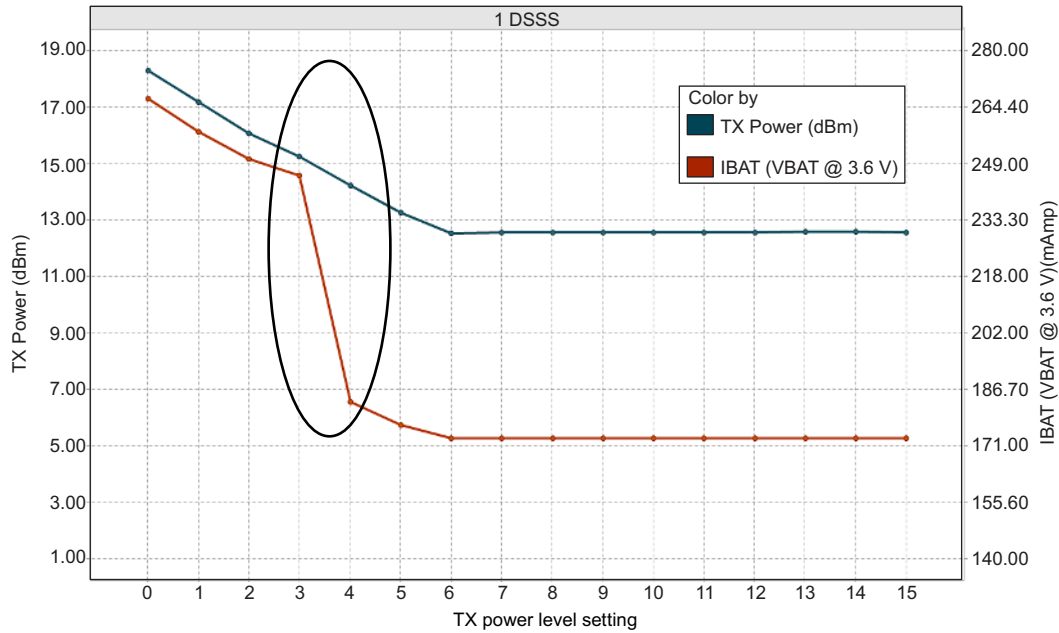
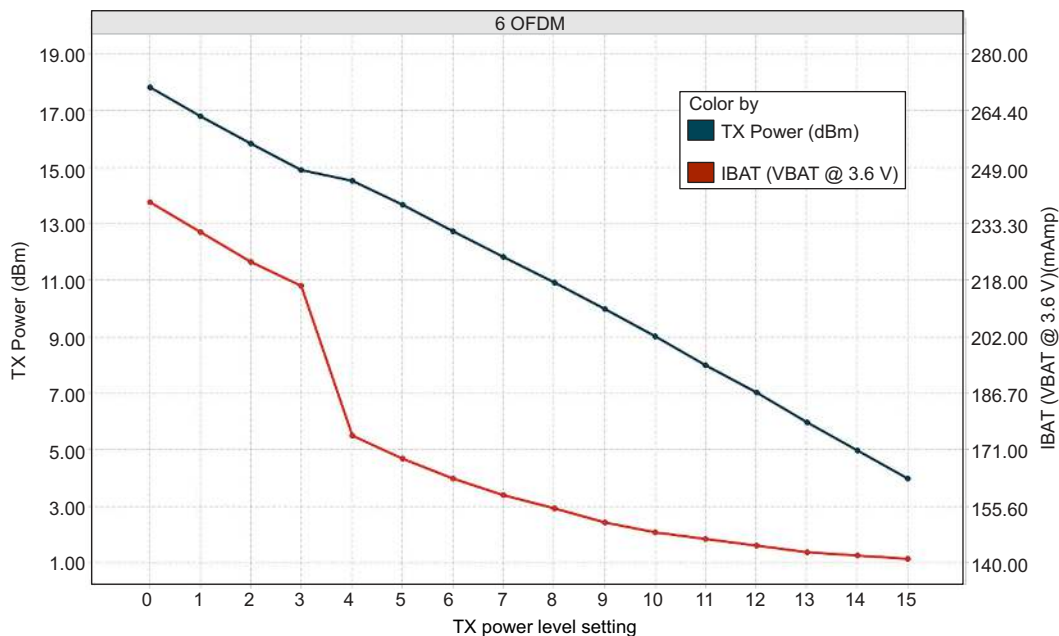
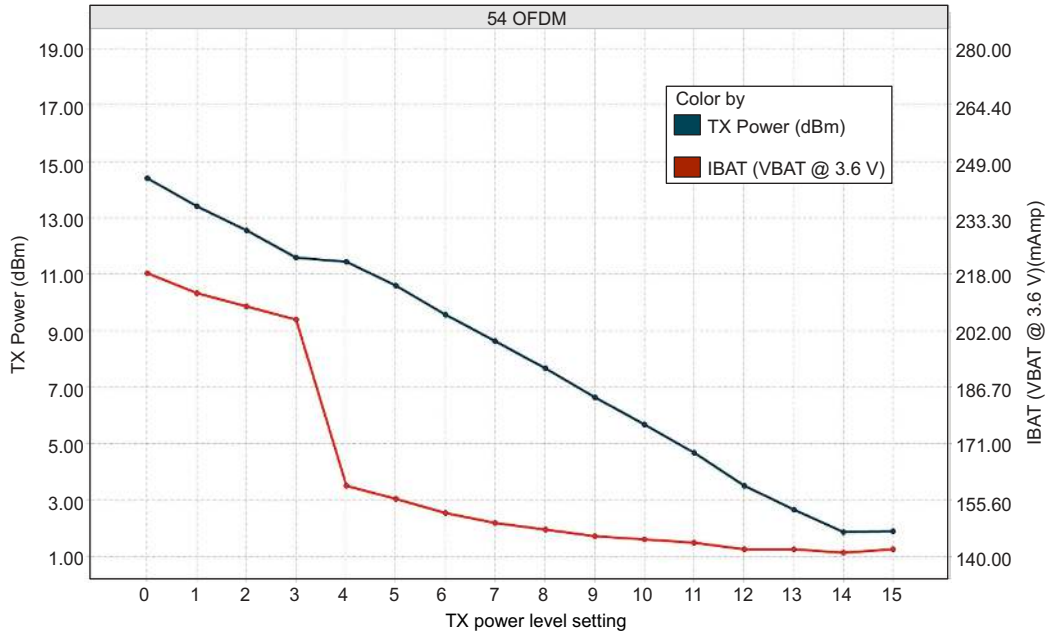

Figure 8-1. TX Power and IBAT vs TX Power Level Settings (1 DSSS)
Figure 8-2. TX Power and IBAT vs TX Power Level Settings (6 OFDM)
Figure 8-3. TX Power and IBAT vs TX Power Level Settings (54 OFDM)
- (1) TX power level = 0 implies maximum power (see Figure 8-1, Figure 8-2, and Figure 8-3). TX power level = 4 implies output power backed off approximately 4 dB.
- (2) The CC3135 system is a constant power-source system. The active current numbers scale based on the V_{BAT} voltage supplied.
- (3) The RX current is measured with a 1-Mbps throughput rate.
- (4) DTIM = 1
- (5) The complete calibration can take up to 17 mJ of energy from the battery over a time of 24 ms. In default mode, calibration is performed sparingly, and typically occurs when re-enabling the NWP and when the temperature has changed by more than 20°C. There are two additional calibration modes that may be used to reduced or completely eliminate the calibration event. For further details, see CC31XX CC32XX SimpleLink™ Wi-Fi® and IoT Network Processor Programmer's Guide.
- (5) The complete calibration can take up to 17 mJ of energy from the battery over a time of 24 ms. In default mode, calibration is performed sparingly, and typically occurs when re-enabling the NWP and when the temperature has changed by more than 20°C . There are two additional calibration modes that may be used to reduced or completely eliminate the calibration event. For further details, see CC31XX, CC32XX SimpleLink™ Wi-Fi® and IoT Network Processor Programmer's Guide.
Figure 8-1, Figure 8-2, and Figure 8-3 show TX power and IBAT versus TX power level settings for the CC3135 device at modulations of 1 DSSS, 6 OFDM, and 54 OFDM, respectively.
In Figure 8-1, the area enclosed in the circle represents a significant reduction in current during transition from TX power level 3 to level 4. In the case of lower range requirements (14-dBm output power), TI recommends using TX power level 4 to reduce the current.